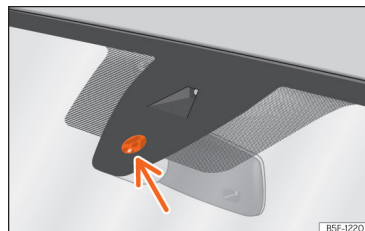

Fig. 107 Rain sensor sensitive surface
The possible causes of anomalies and erroneous interpretations *in the sensitive surface area* >>> **Fig. 107** of the rain sensor are, among others:
- **Dirt:** dry dust, wax, coating on glass (Lotus effect) or traces of detergent (car wash) may reduce the effectiveness of the rain sensor or make it react more slowly, later or not at all. Regularly clean the sensitive surface of the rain sensor >>> **Fig. 107** (arrow) and check for possible damage to the wiper blades.